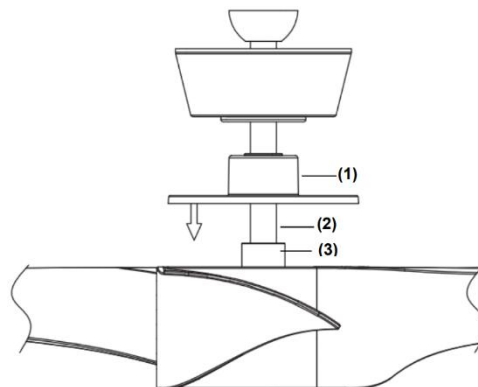

Fig. 4b
3. Put down the decorative cover (1) onto the down rod (2) to cover the down rod coupling housing (3), (Fig. 4b)